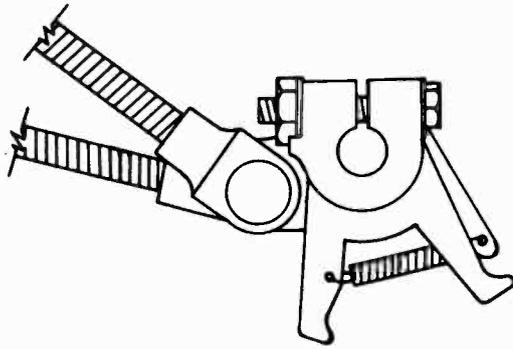

Fig. 6
Blade finger (42) looks like Fig. 6. A visual spacing of approximately  $\frac{1}{64}$ " between the rounded edge of the toggle assembly and the Push-off Blade finger when viewed directly from the bottom of the record changer is required. See Fig. 6. Since these two parts lie on different planes, this adjustment must be made by observation only.
- 7 While holding the Push-off Blade and Record Shelf Assembly tight against the Housing (6), push the Index Toggle Assembly (41) against the spacer (40) and tighten the lock bolt.
8. Tighten the Push-off Blade bracket lock bolt, leaving approximately  $\frac{1}{64}$ " clearance between the shoulder of the Record Shelf shaft and the Push-off Blade finger bracket (42).